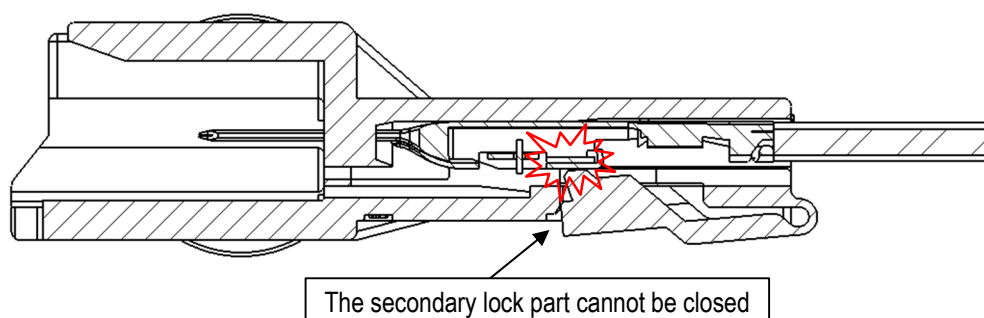

Fig.27. Insufficient the secondary lock part engagement
- ③ When terminal(s) is/are insufficiently inserted as shown in Fig.27, the Secondary lock part cannot be closed.